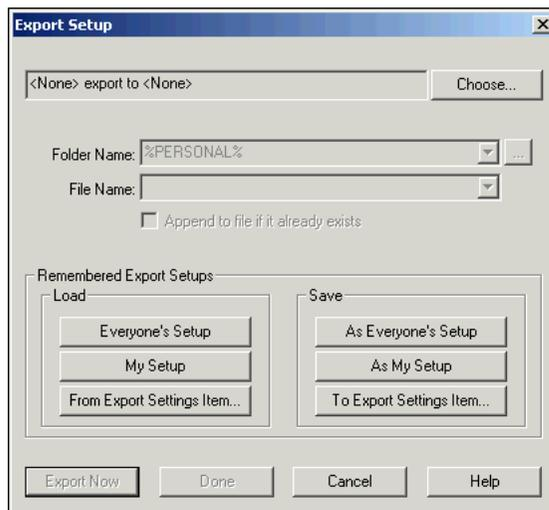

Fig. 261 Export Setup Dialog
The **Export Setup** dialog reappears with the format and destination settings that you defined (Fig. 261).
- 1 Open the **Export Setup** dialog (Fig. 261 on page 262).
The **Export Setup** dialog reappears (Fig. 261 on page 262).